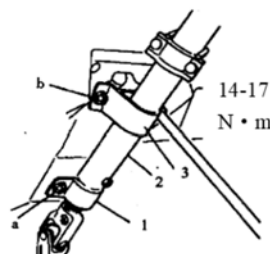

Fig.3.6-14
3) Fix the steering bearing frame, and screw the bolt to the specified torque. Please refer to Fig.3.6-14.